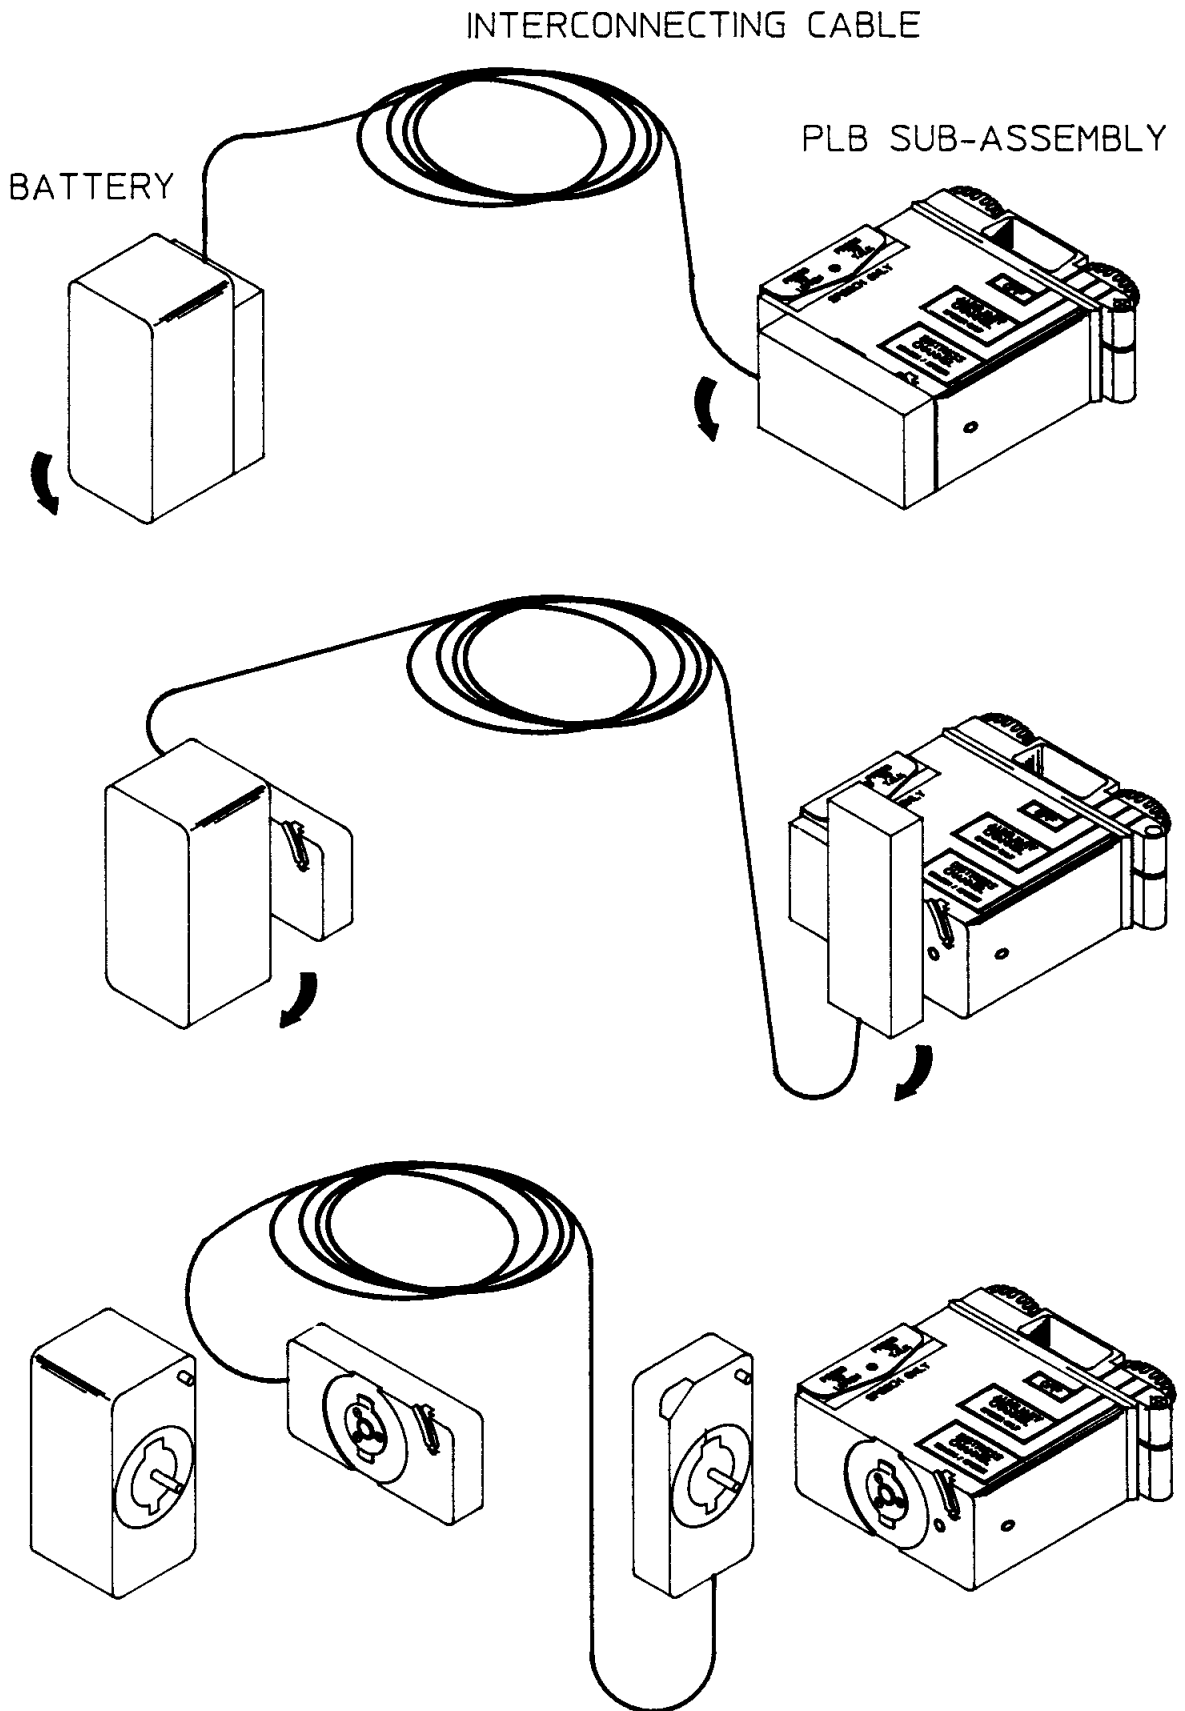

FIG.3 PERSONAL LOCATOR BEACON SUB-ASSEMBLY
- (1) Disconnect the aerial and auto aerial cable assembly.
- (2) Separate the PLB Sub-assembly, battery and interconnecting cable (refer to fig. 3, Chap 2-0).